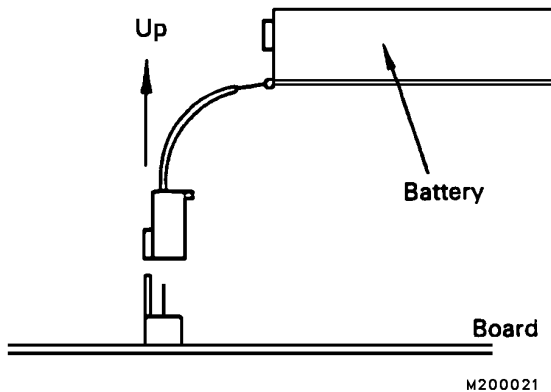

FIGURE 60-10. BATTERY CONNECTION
6. Insert the connector of the new battery directly into the connector on the board (Figure 60-10). Place the battery in the battery holder, and pass the wiring through the notch. When doing this, insert the wiring into the bottom of the holder and pass it through the notch.